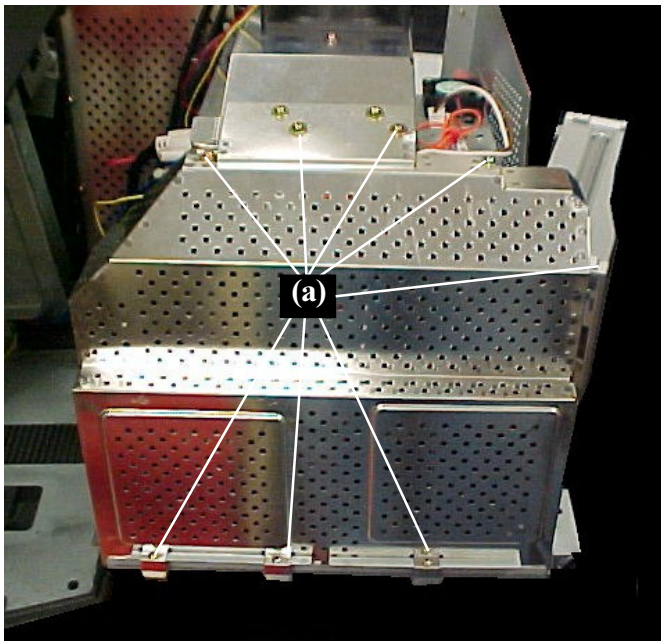

Figure 2-9: PWB-POWER Shield Removal
- 2) Remove 8 screws (a), *Figure 2-9*